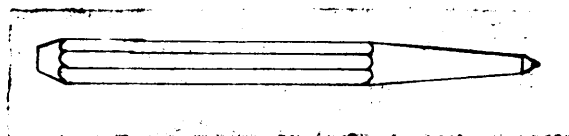

Figure 5.
2. Test to see if tempered properly. (Figure 5).